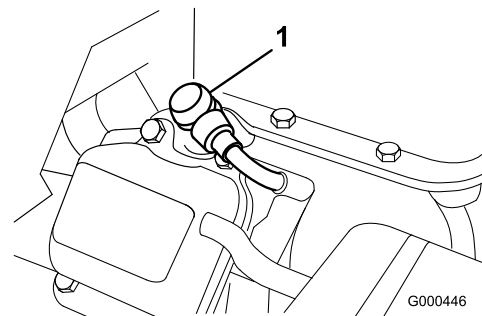

Figure 24
1. Pull molded wire off spark plug (Figure 24).